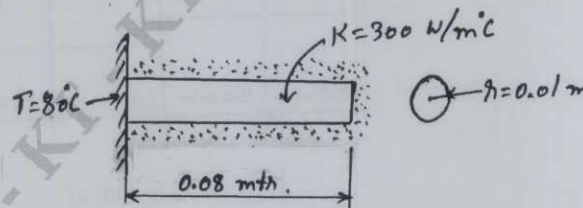

Fig Q7(a)
- 7 a. Calculate the temperature distribution in a 1-D fin with the physical properties given in Fig Q7(a). There is a uniform generation of heat inside the wall of $Q = 400 \text{ W/m}^3$.